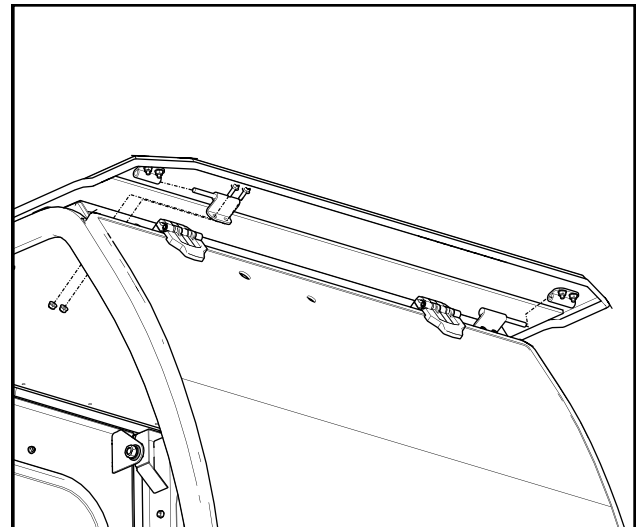

Fig. 14.1 (Roof Installation)
14.1 With assistance, lift the roof onto the side frames. See Figure 14.1. *Take care not to engage the quick release latches with the side frame latch pins.*